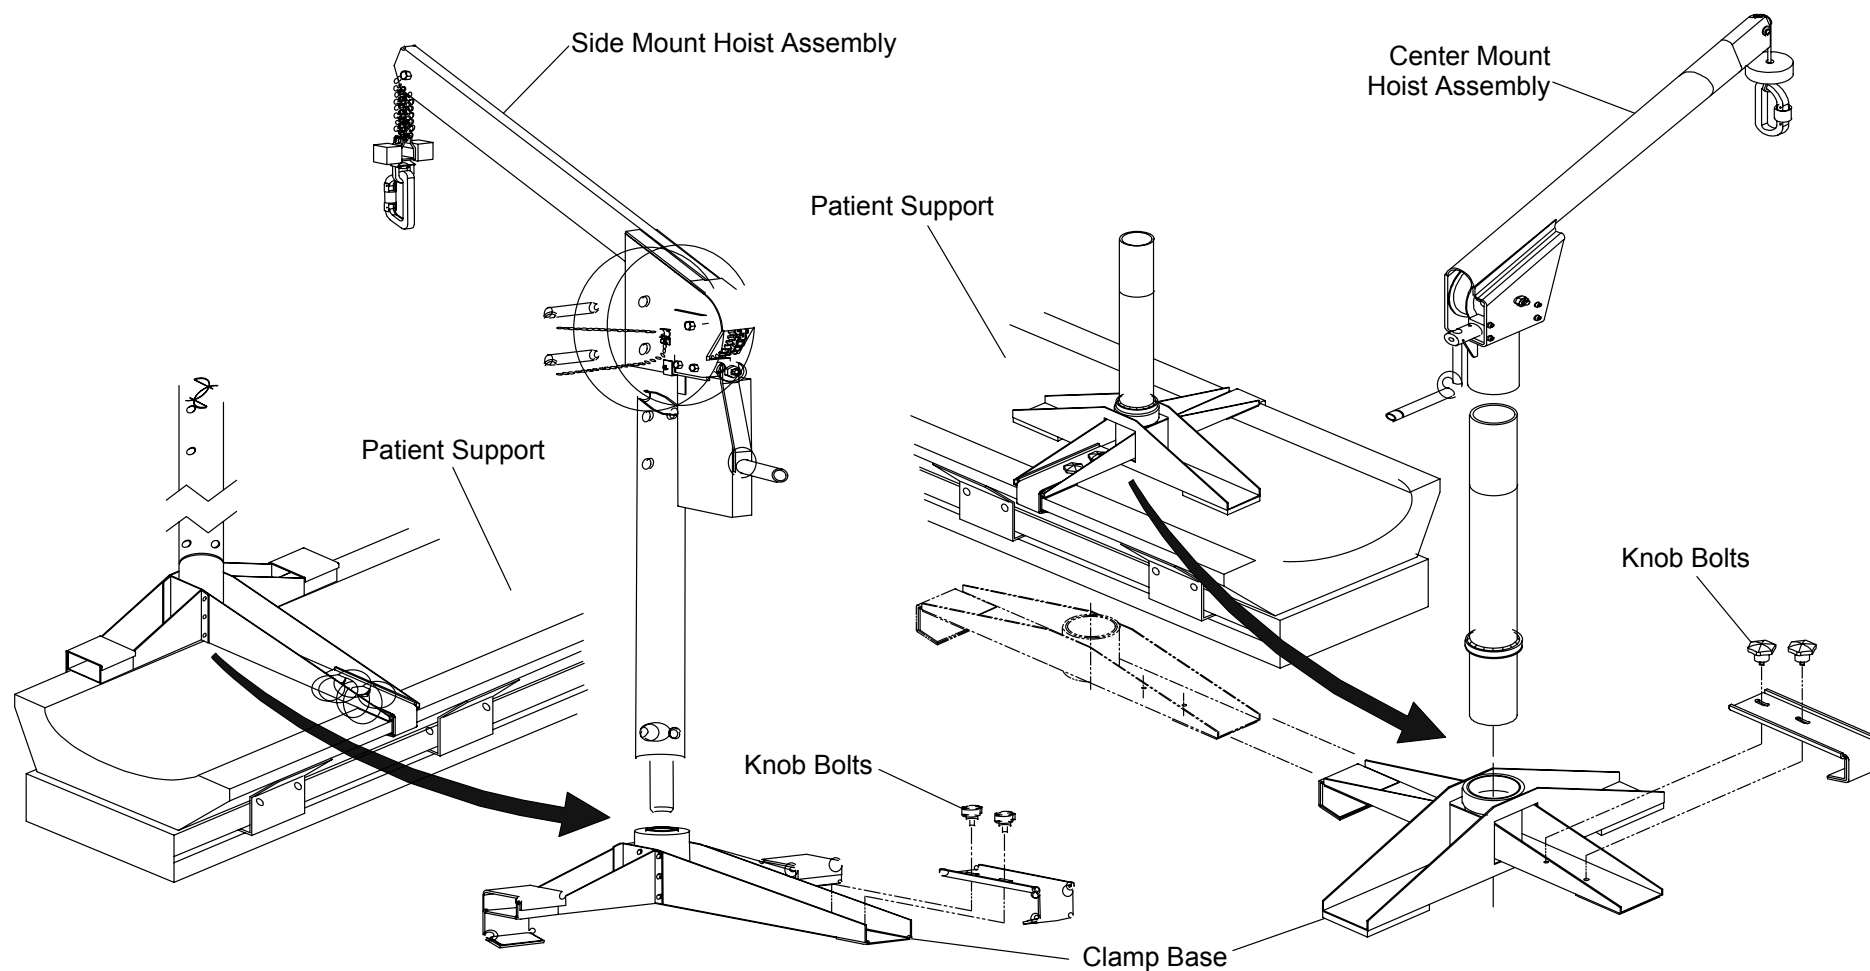

FIGURE 267 Hoist Assembly
9. Secure the Hoist Assembly to the Patient Support. Make sure that the clamp base is seated firmly in position on the Patient Support and that the Knob Bolts are screwed in securely. See Figure 267.